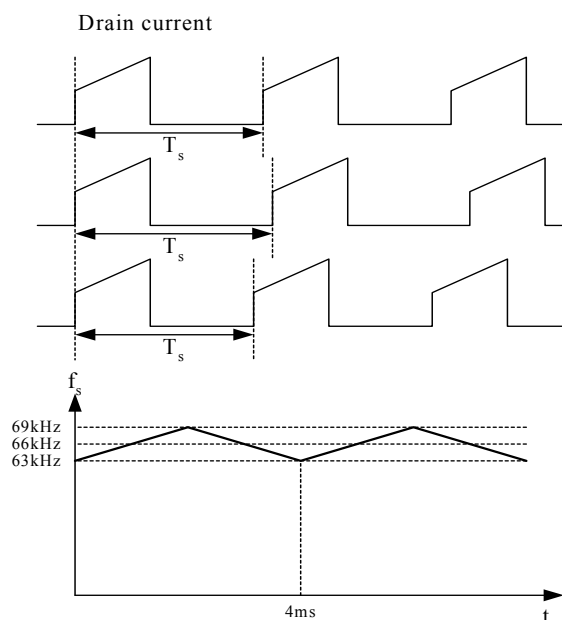

Figure 9. Frequency Modulation
4. Frequency Modulation : EMI reduction can be accomplished by modulating the switching frequency of a switched power supply. Frequency modulation can reduce EMI by spreading the energy over a wider frequency range than the band width measured by the EMI test equipment. The amount of EMI reduction is directly related to the depth of the reference frequency. As can be seen in Figure 9, the frequency changes from 63KHz to 69KHz in 4ms.